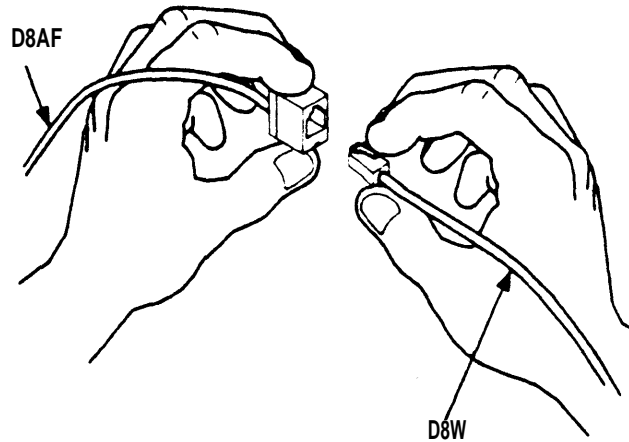

Figure 18
- 7. Plug the loose end of the D8W Modular Terminal Cord from the voice terminal into the jack of the D8AF Extension Cord (Figure 18), the customer-installable jack, or the control unit. The red light beside the button on the voice terminal for line “A” will light as soon as the connection is complete. If the red light does not go on, see the “Testing the Voice Terminals” section